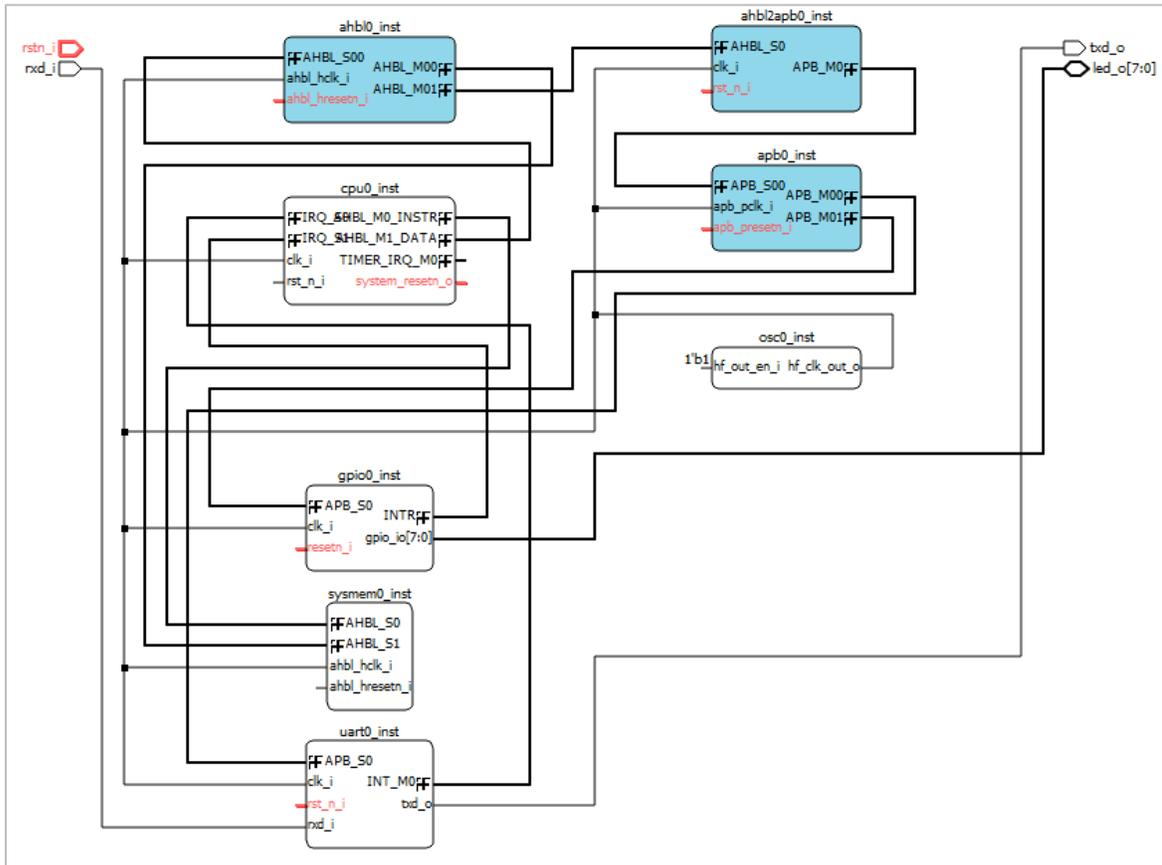

Figure 2.73. Select More than One Ports
- You can connect multiple ports once. When more than one port is selected (Figure 2.73), click **connect**  from the right-click menu to implement it.